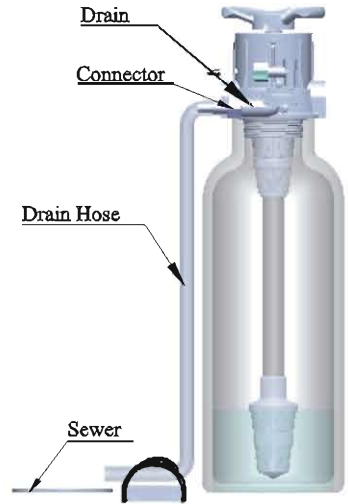

Figure1-3
③ Install drain pipeline
- Be sure not connect drain with sewer, and leave a certain space between them, avoid wastewater be absorbed to the water treatment equipment, such as showed in the Figure1-3.